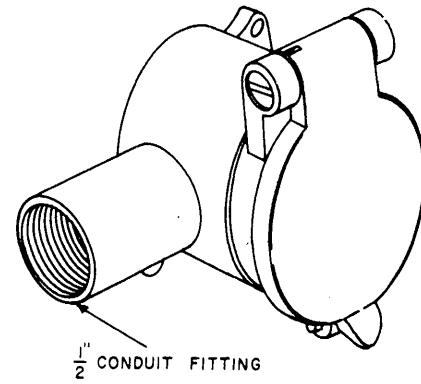

Figure 2b. Installation of 16151 Jack with Conduit.
3.05 The 16151 outdoor jack may be coupled directly to 1/2-inch conduit (Figure 2b). When attached in this manner, the cover assembly (Figure 2c) can be rotated (by loosening the cover lock screw) to position the cover hinge at the top. To connect station wire to the 493A jack, pull station wire through the conduit and proceed as follows (Figure 2c):